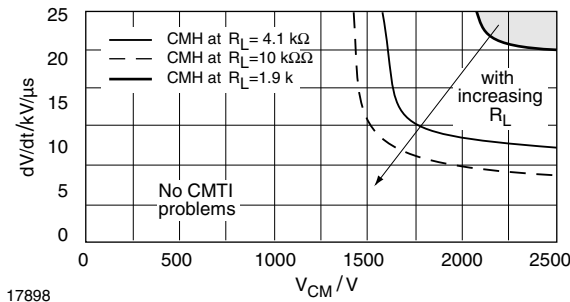

Fig. 22 - Typical CMH Characteristics for the High CMTI Rated Optocouplers
- Choose a low-value pull-up resistor should be chosen to a low value (compare with figure 22)